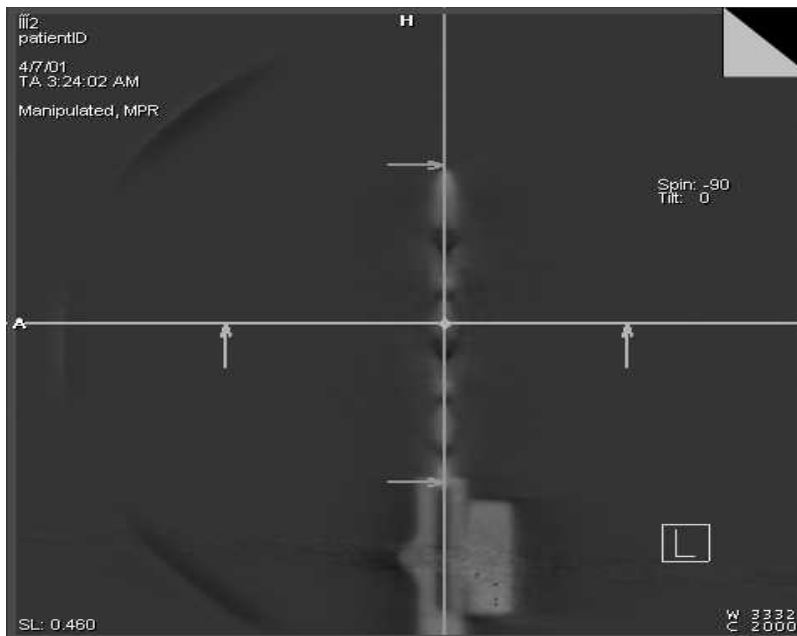

Fig. 14 Slice plane setting in the upper left window.
- Select the plane perpendicular to the lead strip test pattern with the vertical bar (see Fig. 14).